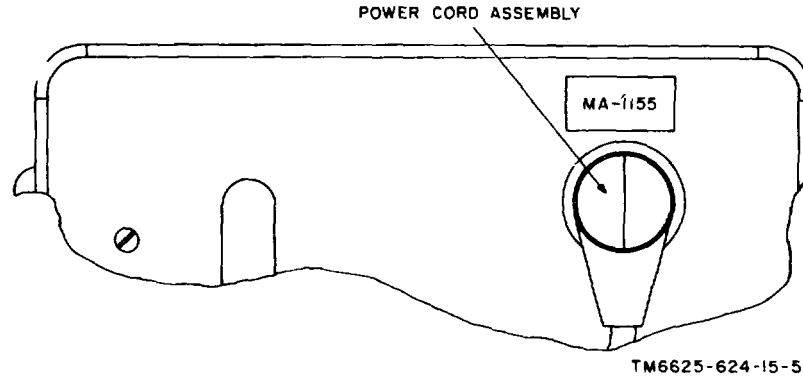

Figure 1-2. Voltmeter ME-262/U, partial rear view, power cord installed.
a. Voltmeter ME-262/U is a self-contained test set equipped with a removable powerline cord as shown in figure 1-2. The test set is 15 inches high, 10 inches deep, 8 inches wide, and weighs 21 pounds. The test set is housed in a crinkle-finished metal case equipped with
- a. Connect the female connector of the power cord to the power receptacle at the rear of the test set (fig. 1-2).